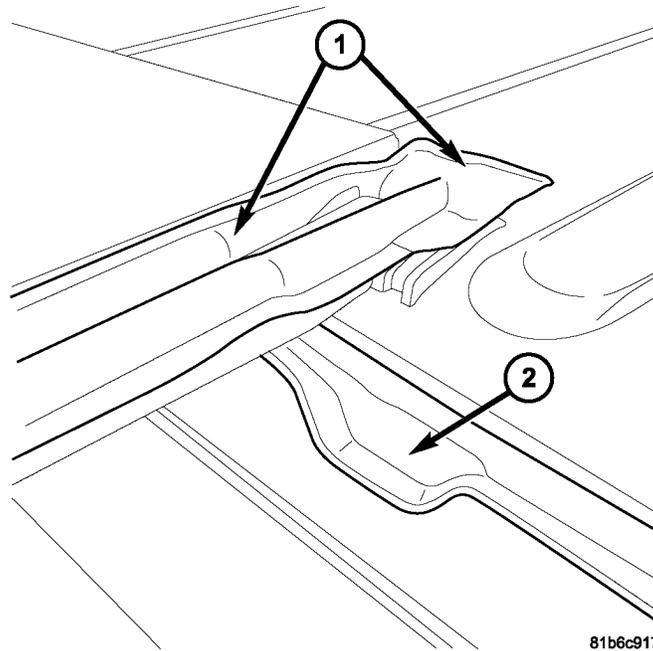

Fig. 2 HARD TOP SEAL CUP AREA
- 5. If leaks to the interior were at the dial fasteners or the B-pillar area, and no water traces are found on the right Freedom Panel inboard edge or molded detail areas of the seal, look for water traces on the hardtop panel front flange directly below the Freedom Panels. Water collected here can indicate a leak under the Freedom Panel in the "cup" area of the hard top seal, (Fig. 2). This type of leak could be a leak path under the hard top seal center mold, or a path past the foam under the right Freedom Panel rear molded detail.